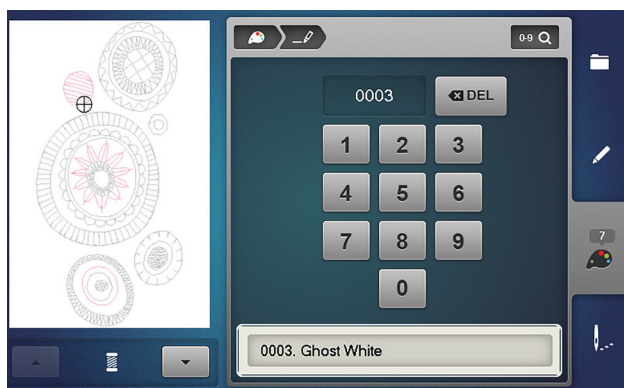

Fig. 21
- Search for a color number in the current thread brand by selecting the search icon. When selected, the window opens with the number pad and a preview of available color numbers as you type in the thread number (Fig. 21). Select the color preview to confirm the thread selection.